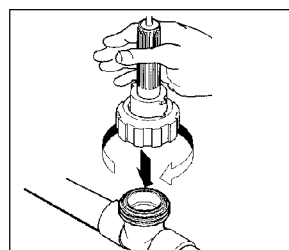

FIGURE 13
9. Reinstall conductivity sensor into flow assembly (see fig. 13), close sample valve, and open isolation valves.